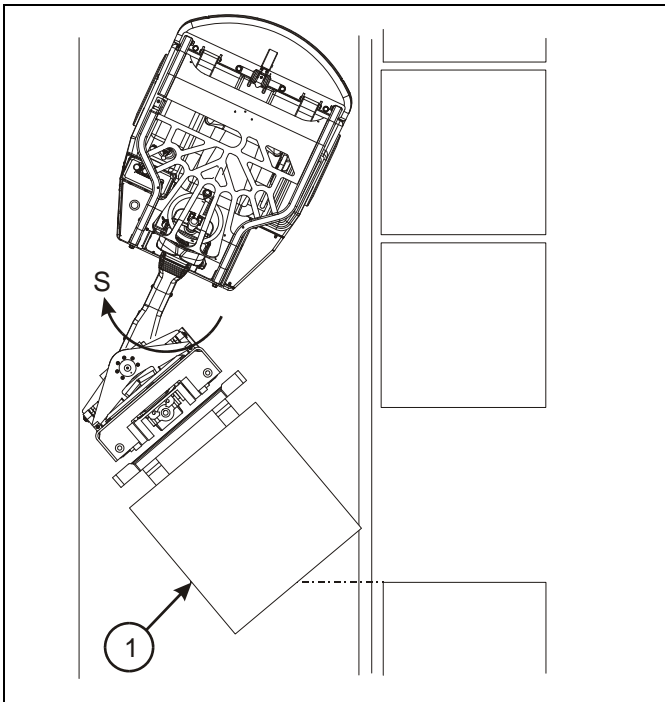

Figure 4-16: Retrieving the Load
9. Shift into reverse and slowly back away from the stack as you turn the steering wheel to keep the forks straight. See Figure 4-16.
12. When the front right hand corner of the load clears the rack, stop backing and turn the steering wheel clockwise to straighten out the forks, so they are parallel with the body of the truck. See Figures 4-16 and 4-17.